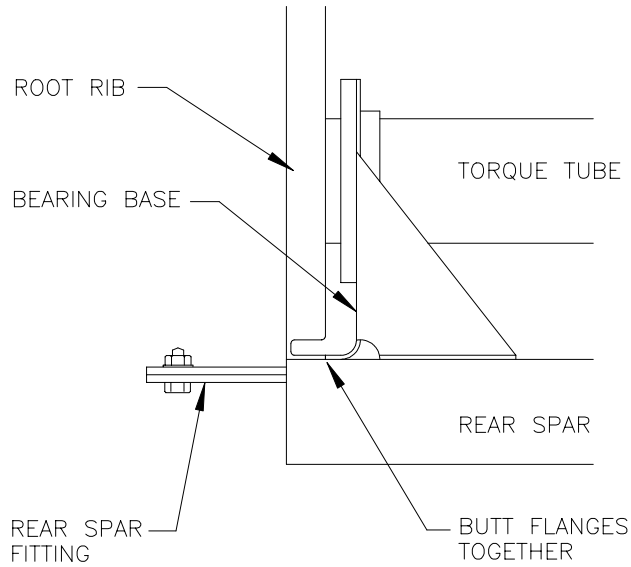

Figure 8.9.1
- 5) Position the inboard Bearing Base between ribs #1 and #2 with the flat side towards the root. Position the outboard Bearing Base between the #6 and #7 ribs with the flat side to the tip. Figures 8.9.1 and 8.9.3.